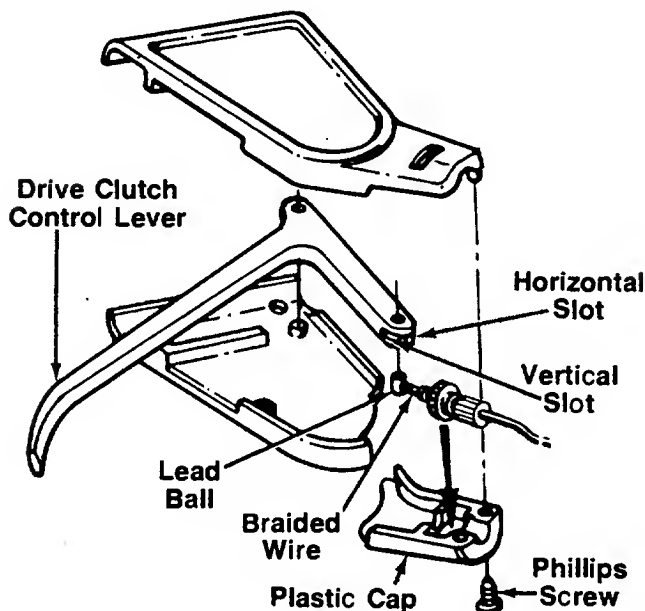

FIGURE 7.
2. Slide the braided wire around in the horizontal slot. See figure 7.
3. Make certain the adjustment wheel is threaded onto the cable as far as possible as shown in figure 7. Place the adjustment wheel into the clutch control housing.
4. Secure the plastic cap to the clutch control housing using the two Phillips head screws. See figure 7.